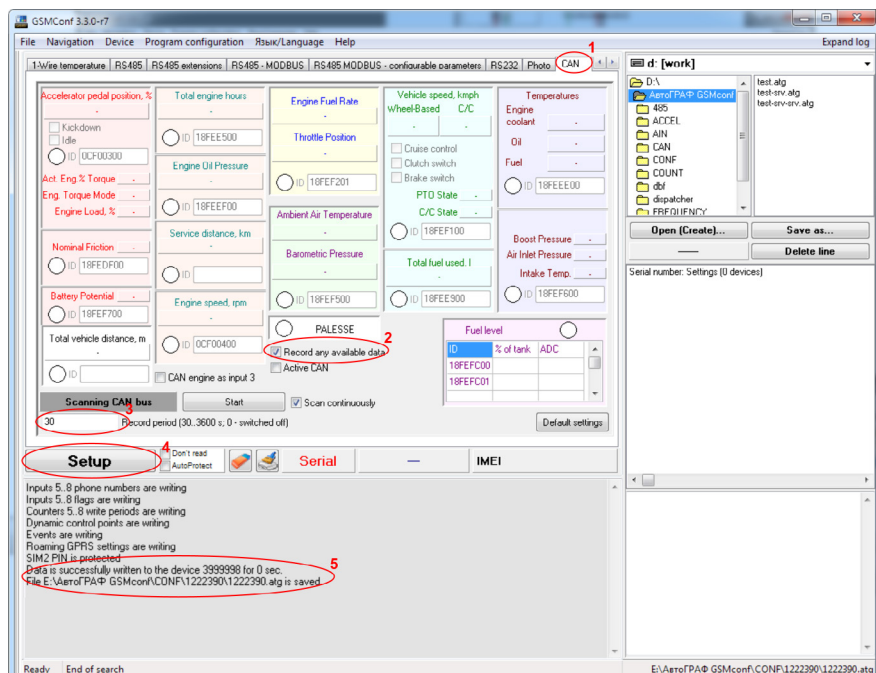

Fig.5. CAN Bus setting up.
3. Run the AG.GSMConf program and go to the «CAN» tab (Fig.5, i.1).
4. Enable «Record any available data» option (Fig.5, i.2).
5. Specify a record period (Fig.5, i.3).
6. Save the setting to the controller by pressing the «Setup» button (Fig.5, i.4).
7. When settings are successfully applied to the controller you will see a message about successful saving of the settings in the status window (Fig.5, i.5).